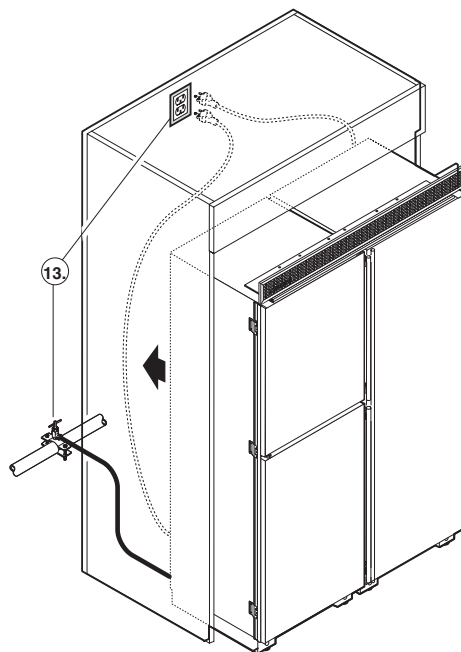

Figure 22
13. **Figure 22:** Connect the appliances: